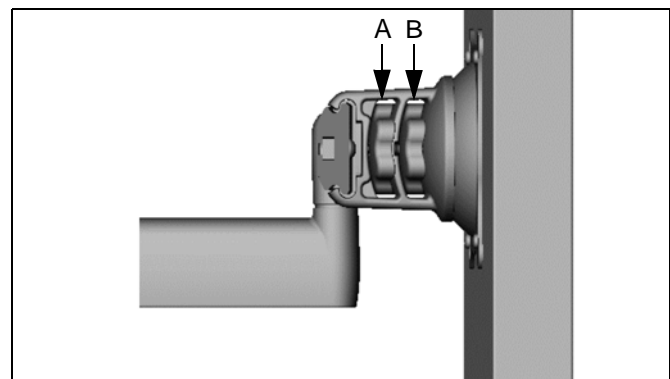

Figure 26: Dual / Triple Display Adjustment
- Using your fingers, slightly loosen adjustment knob "A" (See Figure 26).
- Using your fingers, slightly loosen adjustment knob "B" (See Figure 26).